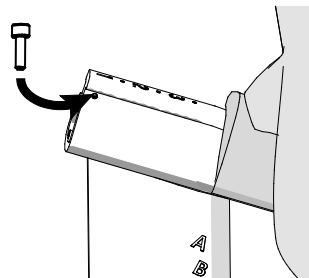

Figure 10
2. Insert one bolt ③ into the post and fully tighten it to set the travel limit (Figure 10).